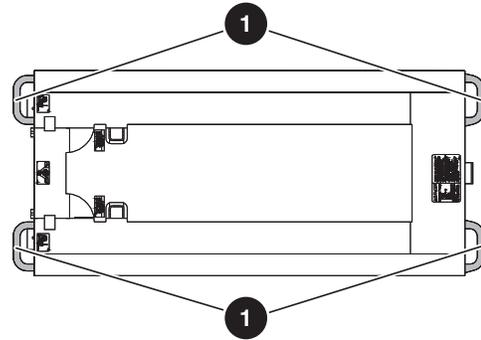
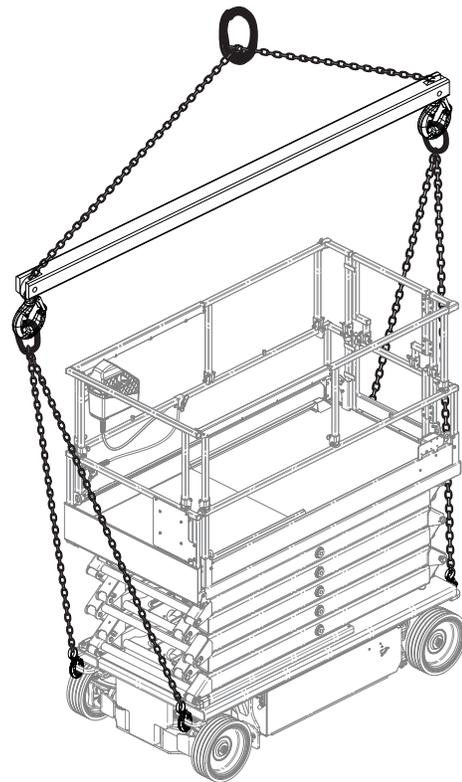

Figure 09 Lift and tie-down points
Figure 10 Appropriate method to hoist
- Attach the rigging to all **four lift points ①**, or lift with the forks in the designated **forklift pockets ②**. Refer to Figure 09, Figure 10, and Figure 11.
- Tie-down the MEWP to the transport vehicle using the four **tie-down points 1**. Refer to Figure 09.